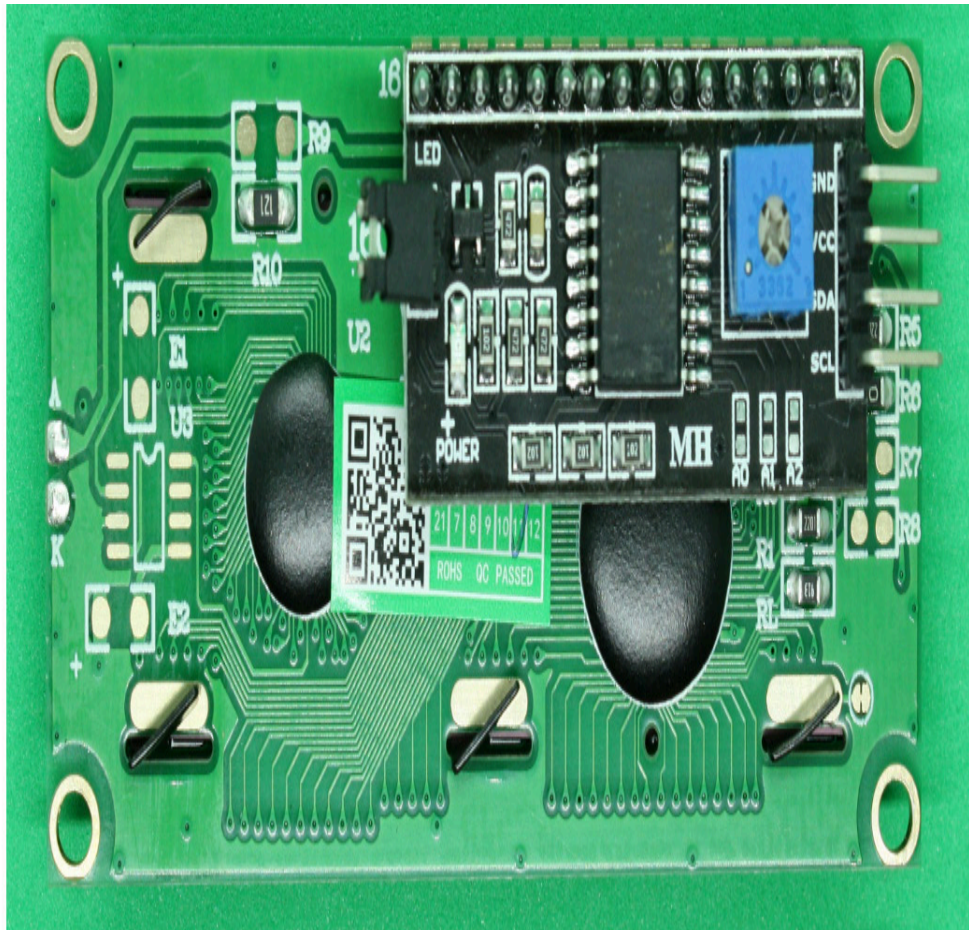

Figure 12.9 – The back of the LCD
*Figure 12.9* depicts the back of the LCD, showing its I2C interface backpack attached to it:
From *Figure 12.9*, you can see that the LCD's I2C interface has a small variable resistor, just right of the big IC. You can rotate it to adjust the LCD contrast.